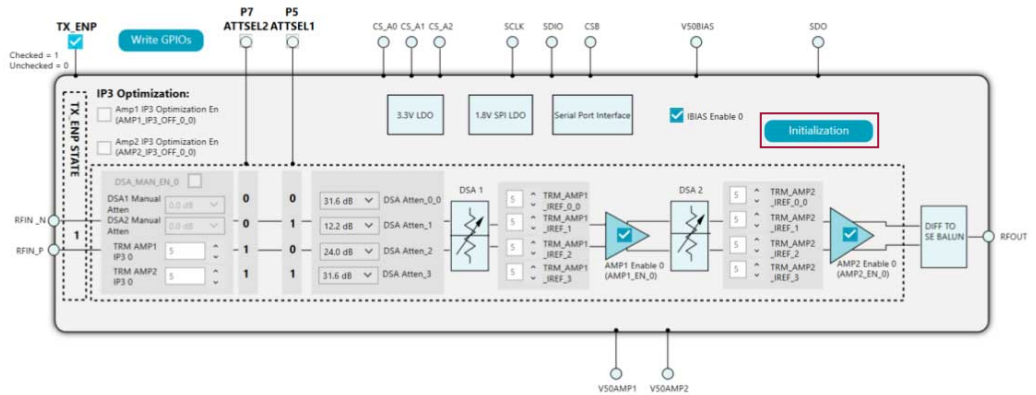
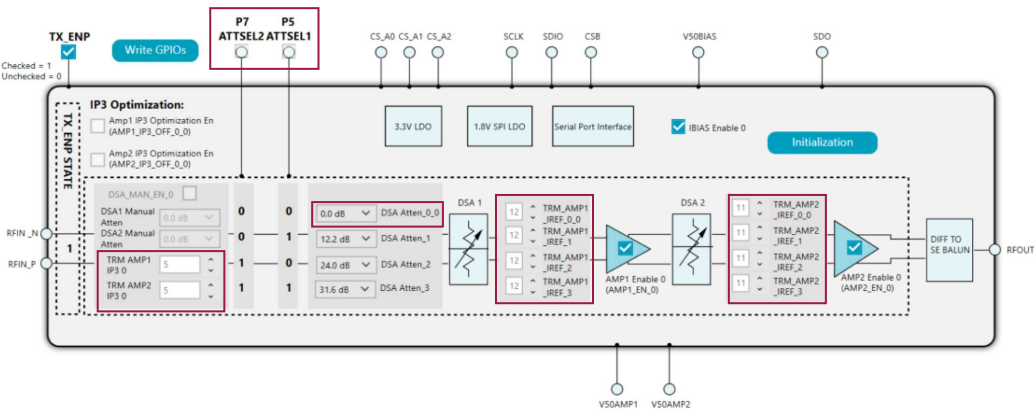

Figure 8. ADL6337-EVALZB Board Level View (After Initialization and TXENP Set to High)
Figure 9. ADL6337 IC Level View (TXENP Set to High)
5. Click **Initialization** to view the ADL6337 IC level view (see Figure 8 and Figure 9).